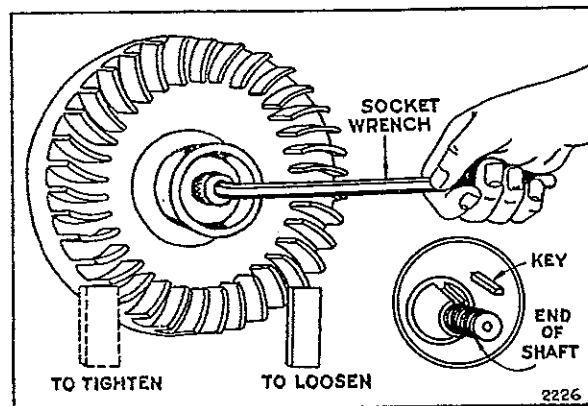

Fig. 1
A. Rope Starter Motors. Remove the blower housing. Bolt or clamp motor to work bench. Place a wood block under flywheel fin on right side of flywheel or a small rod between fins to hold it rigid and prevent turning as you loosen nut. See Fig. 1, Plate No. 6. Use large wrench, 10 inch or bigger. To start nut to the RIGHT tap end of wrench handle lightly with hammer. Tap carefully or a broken fin may result which will throw flywheel out of balance. After nut is re-